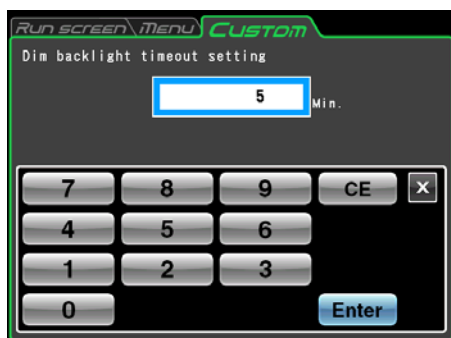

Figure 24: Screen for setting the time period after which the backlight will be dimmed
- Pressing "[eco] min." when the dimming backlight mode is enabled opens the screen shown in Figure 24 Screen for setting the time period after which the backlight will be dimmed that allows you to set the time when the dimming backlight mode will begin. You can set a time between 1 and 180 minutes in one minute increments.
- Touching the screen while in dimming backlight mode will return normal brightness to the screen adjusted in step (1).